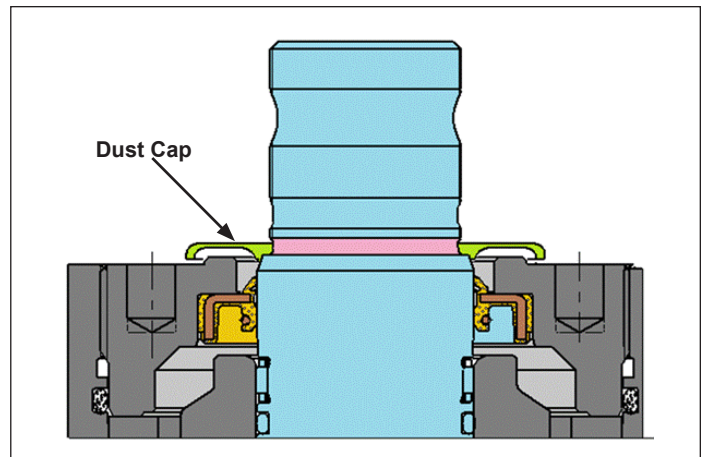

Figure 8 - Dust Cap Installation
15. See Figure 8. Grease the inner diameter of the new dust cap and install the dust cap over the input shaft. Ensure the dust cap is pushed down below the bottom of the splines and makes good contact with the cover.